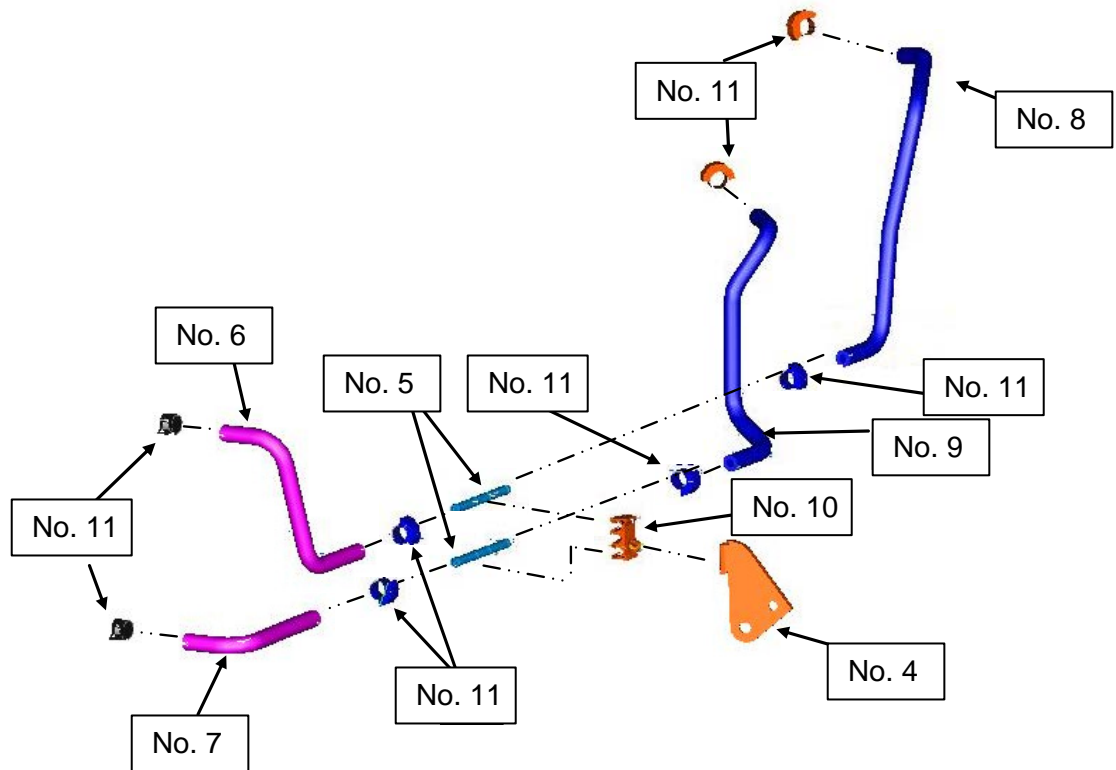
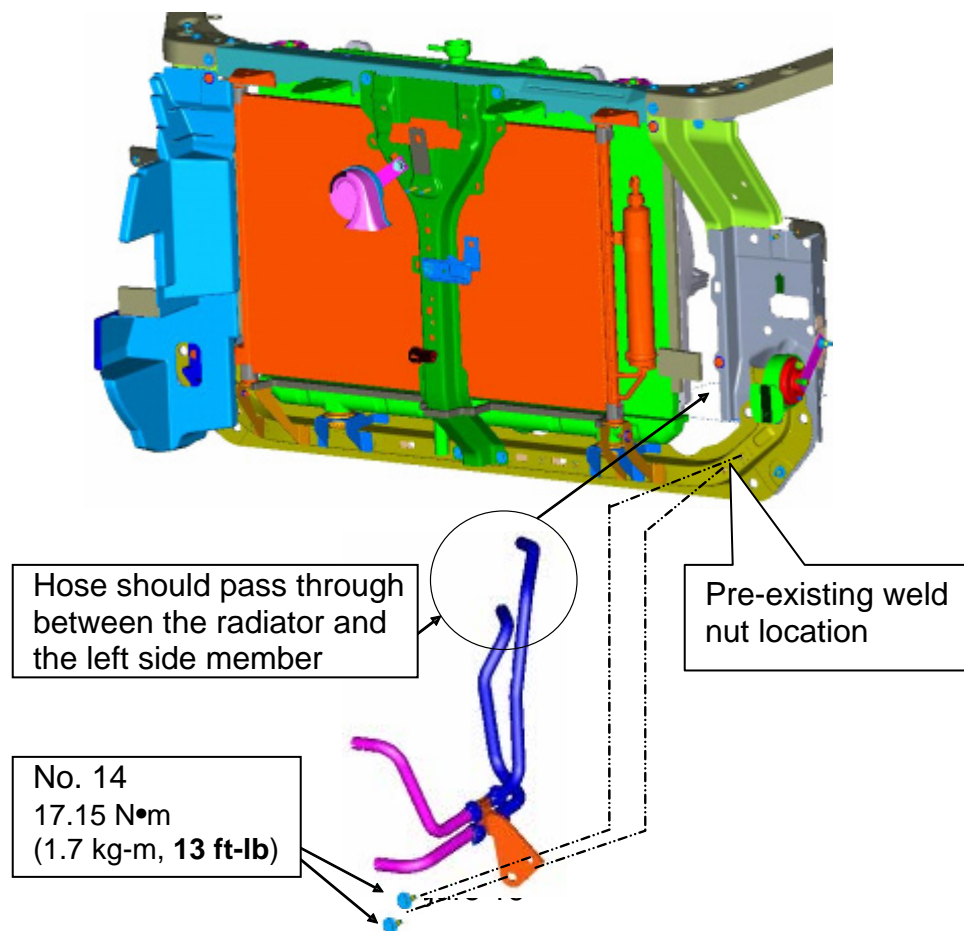
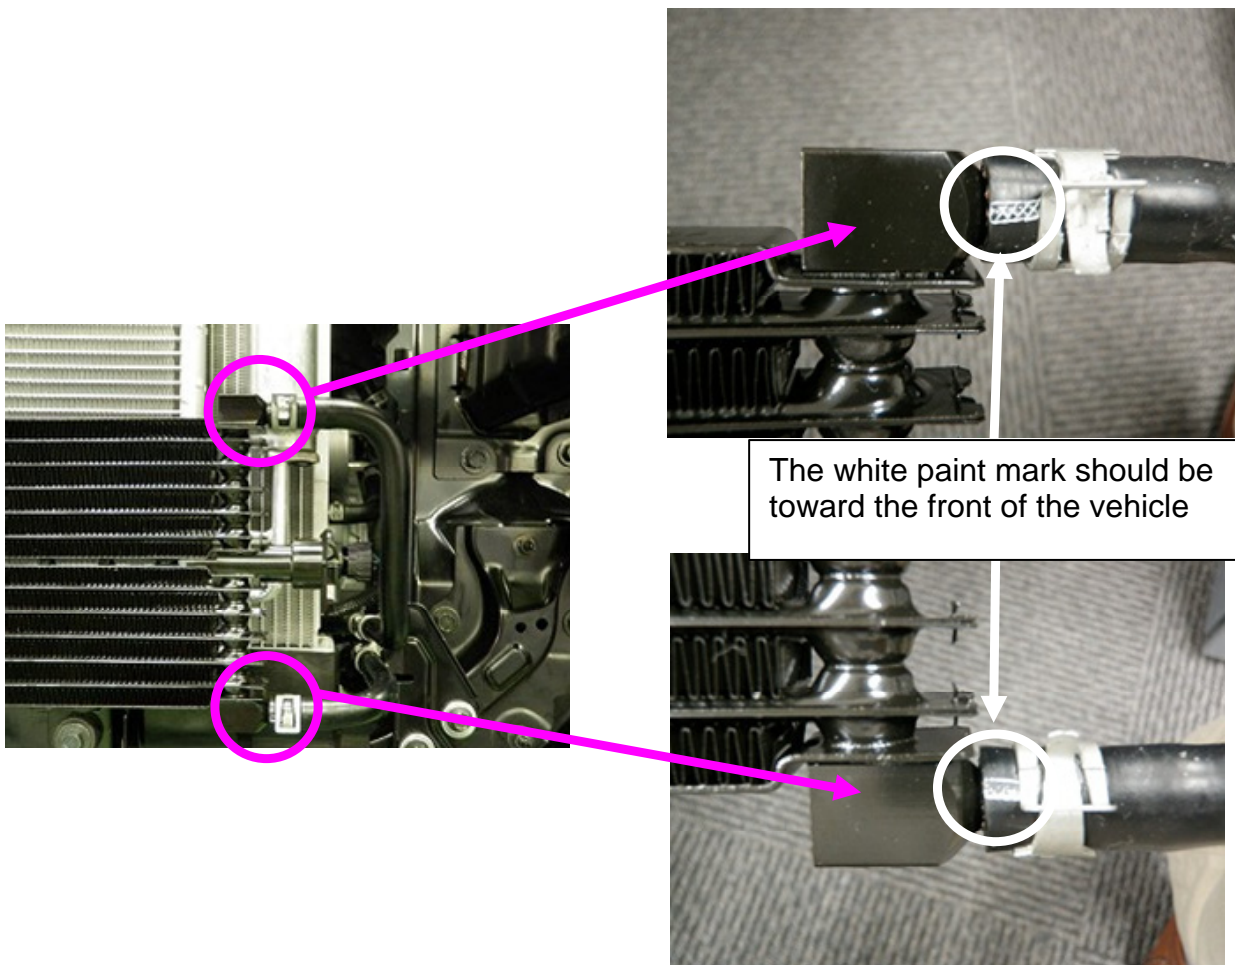

Figure 19
Figure 23
Figure 24
Figure 19 illustrates the COOLER ASSY-AUTO TRANS Hose Assembly referenced in steps 1-3 on page 12.
NOTE: Refer to Figure 19 on page 11 for steps 1-3 below.
NOTE: Refer to Figure 19 on page 11 and Figure 23 below for steps 1-3 below.
- a. Pass the hoses shown in blue (Figure 23) between the radiator and the bulkhead.
- b. Install BRKT ASSY-O/COOLER, SIDE (No. 4) with two bolts (No. 14) to the pre-existing weld nuts and torque with the specification provided in Figure 23.
2. Place 2 new CLAMP-HOSE (spring clamp, No. 11) onto the hoses and install the HOSE (No. 6/7, Figure 19) onto COOLER ASSY-AUTO TRANS, OIL (No. 1) with the white paint marks facing toward front of the vehicle (Figure 24).